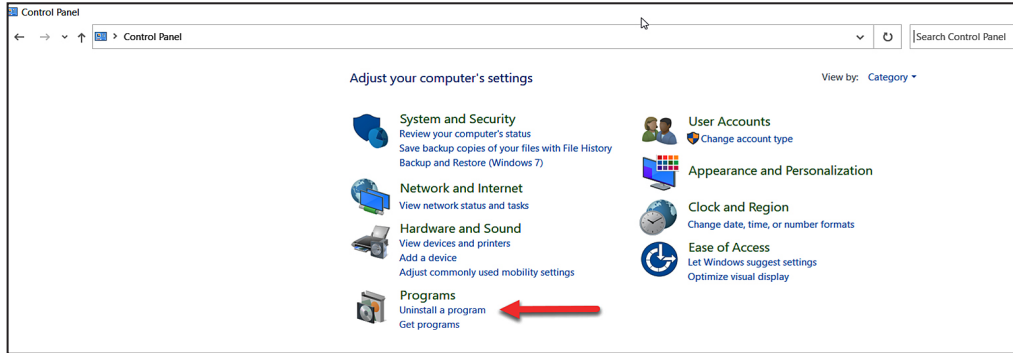

Figure 27. The Control Panel dialog box.
**STEP 3.** From the Control Panel dialog box, select “Programs.” See Figure 27.